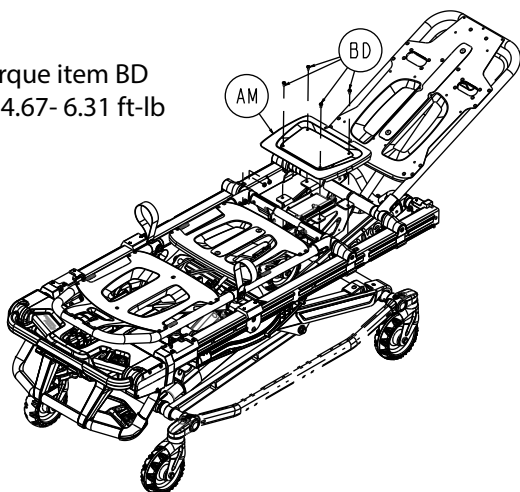

Figure 60 – Remove the seat skin screws
5. Using a T25 Torx driver, remove the four pan head thread rolling screws (BD) that secure the seat skin (AM) to the cot (Figure 60). Remove and save the seat skin. Save the screws.